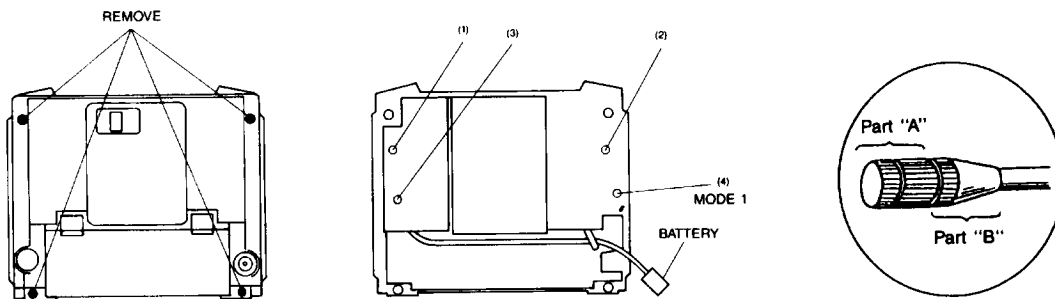

FIGURE 5
To adjust the spring tension, first remove the four rear cover screws as indicated on the sketch below (Figure 5). The rear cover can now be lifted off. Three of the four screws indicated on the right hand sketch of a Mode II transmitter are visible. They control stick tension as follows: (1) Elevator Mode II; (2) Rudder; (3) Aileron; (4) Elevator Mode I. Adjust the screw in for more tension.